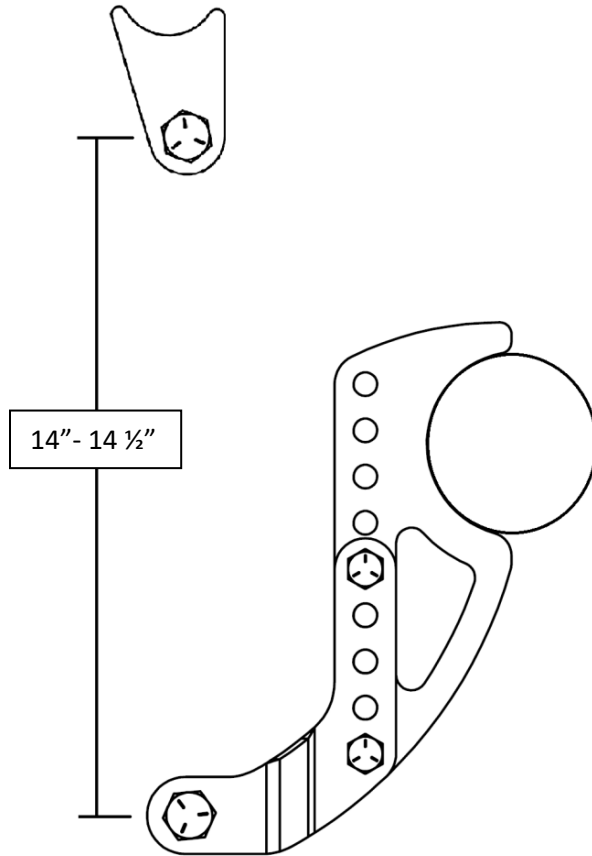

Figure 1
3. If the vehicle has factory frame rails, it is recommended that the frame rails be double plated in the area the cross member is to be welded. Keep in mind that the upper points should be as parallel to each other as possible (See **Figure 1**). Measure the distance from frame rail to frame rail and cut the cross member tubing to length (if applicable). Tack the tubing into place. Double check all measurements.
4. Assemble both sets of upper mounts (two tabs, one ½" ID x 1 ¼" in. wide sleeve or a 1" wide bearing (from shock), one ½" x 2 ½" bolt and one ½" nut). Assemble both of the adjustable mounts (one left L-bracket, one Right L-bracket, one housing bracket, two 3/8" x 1 ¼" bolts, two 3/8" nuts). When assembling the adjustable shock mount brackets, the housing bracket is sandwiched between the two L-brackets. Align the L-brackets so the shock mount hole is approximately halfway down the housing bracket (**Figure 1**). This allows plenty of ride height adjustment, both up and down. It is suggested that for the installation process you substitute the lock nuts with standard nuts for ease of use.
10. It will be necessary to adjust the spring seat to achieve the proper shock ride height. The shock ride height is measured from the center of the upper shock eye to the center of the lower shock eye with the car sitting on the ground at ride height. (**Figure 1**). The shock ride height should be 14" to 14 ½" if you have purchased a QA1 Pro-Rear System. If the chassis ride height is off some, do not be concerned at this point as it can be changed later. If the shock ride height is not correct, raise the car and place on jack stands. Let the rear axle hang and adjust the spring seats as needed. Lower the car back to the ground and recheck the shock ride height. If that measures OK, then check your chassis ride height. If the chassis ride height is off, then jack the car back up and put it back on the jack stands. Larger ride height adjustments can be made by moving the brackets up or down on the axle mounts.